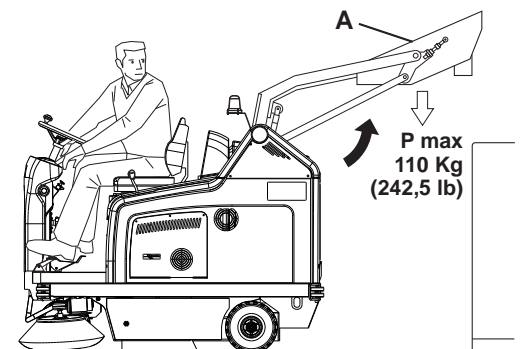
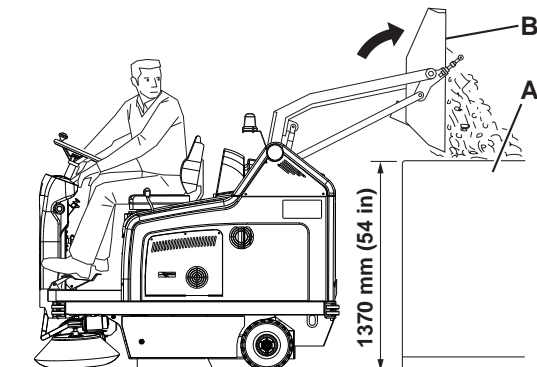

Figure 1
Figure 2
1. The hopper maximum dumping height is 1,370 mm (see Fig. 2).
- Turn off the vacuum system with the switch (66).
- Turn on the filter shaker by pressing the upper part of the switch (66).
*When lifting and emptying the hopper (4), engage the parking brake with the pedal (82) and the lever (75).*
3. Keep people away from the machine and from the hopper (4) especially.
4. Press the enabling switch (61) while pressing the hopper lifting switch (67) to lift the hopper (A, Fig. 1) up to the desired position.
5. Press the enabling switch (61) and the dumping switch (68) of the hopper (B, Fig. 2) at the same time, and discharge all the debris in the dustbin (A).
*The hopper (B, Fig. 2) can be dumped only when lifted at a minimum height of 270 mm.*
6. Press the enabling switch (61) and the hopper dumping switch (68) at the same time to bring the hopper back to horizontal position.
7. To lower the hopper, press the hopper enabling switch (61) while pressing the hopper lowering switch (67).